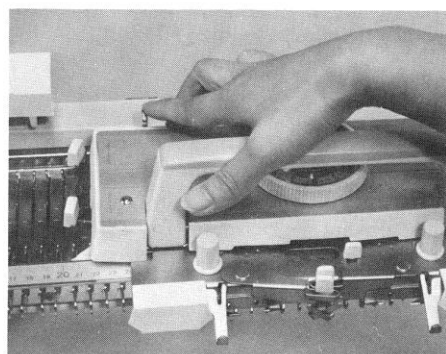

Fig.23
- a) The row counter automatically counts the rows as the carriage is moved from side to side with one of the two row counter trip arms extended. (Fig.23)